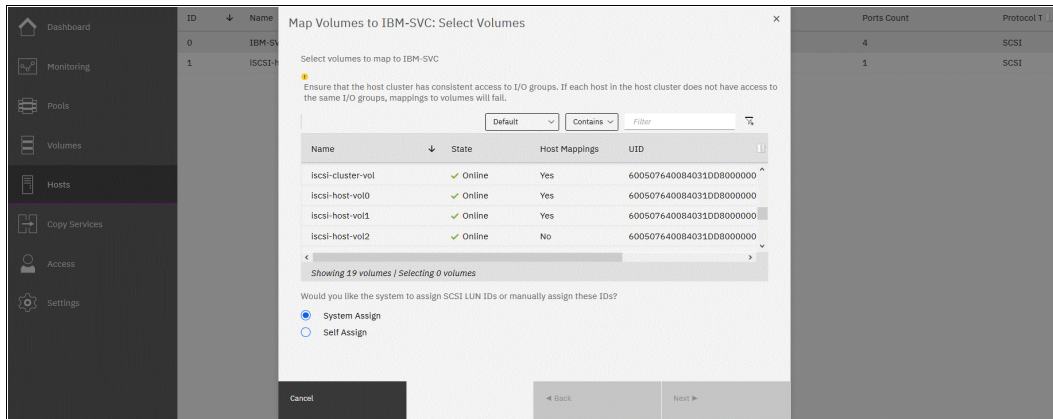

Figure 7-63 Adding shared mappings
3. If new shared mappings must be created, click **Add Volume Mappings** to open the next window (see Figure 7-63). A list appears that displays all of the volumes that are not yet mapped to the selected cluster.